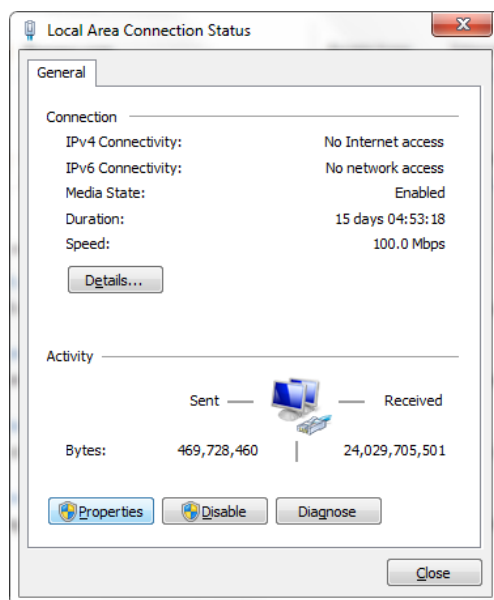

Figure 65: Local area connection status window
- 11) Under **Communication Settings**, click the **Edit** button next to the IP address. The **Local Area Connection Status** window opens. See Figure 65.